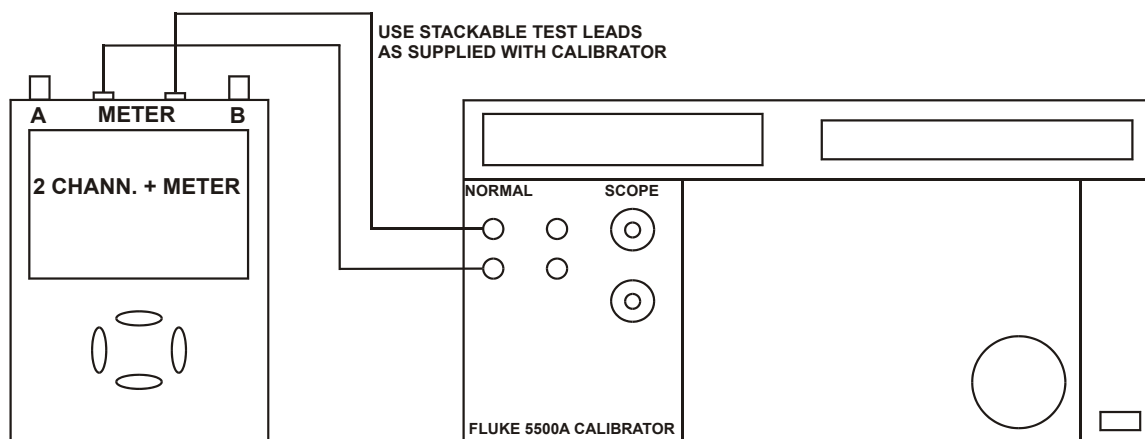

Figure 4-21. Test Tool Meter/Ext Input to 5500A Normal Output
1. Connect the test tool to the 5500A as shown in Figure 4-21.
1. Connect the test tool to the 5500A as for the previous test (see Figure 4-21).
- Connect the test tool to the 5500A as for the previous test (see Figure 4-21).